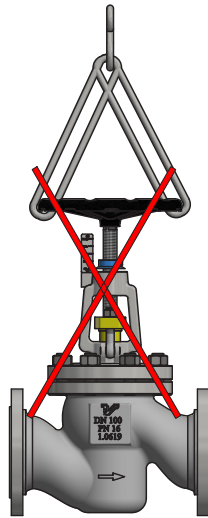

Figure C.25
- Do not lift VENR via the handwheel (Figure C.25).